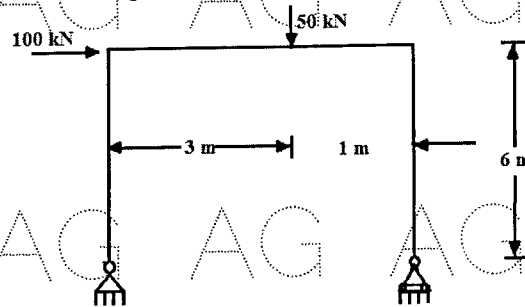

Figure 7
9. Analyse the frame shown figure 7 by stiffness method. [10]